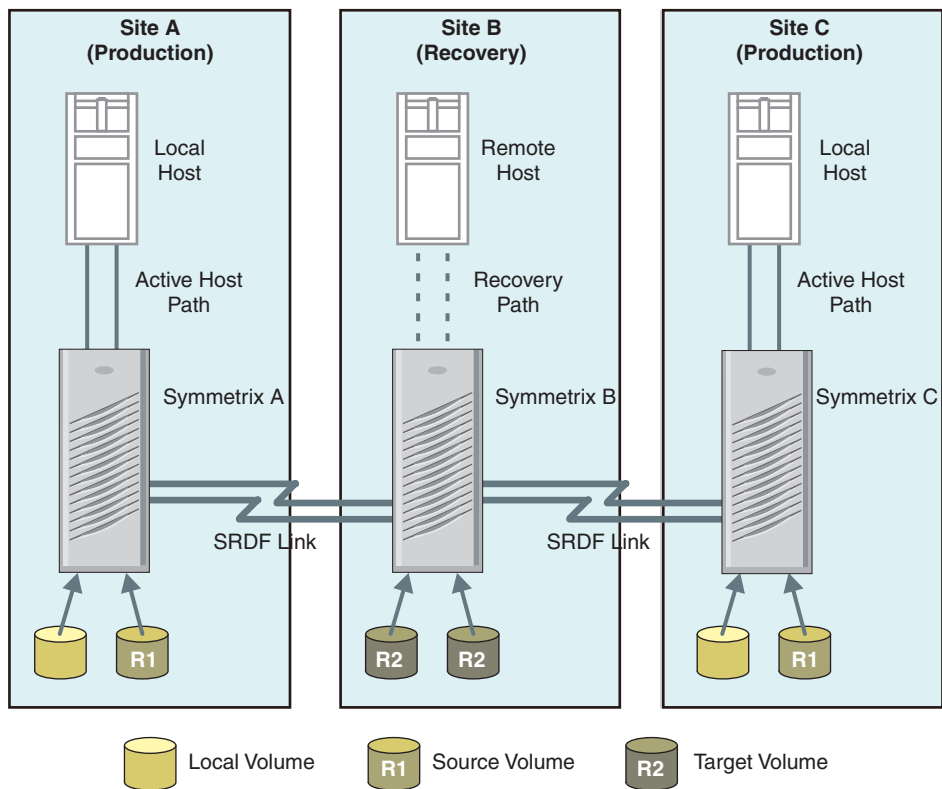

Figure 1-4 Two Production Sites and One Recovery Site
In Figure 1-4, two production sites (A and C) send data across SRDF links to one recovery site (B).